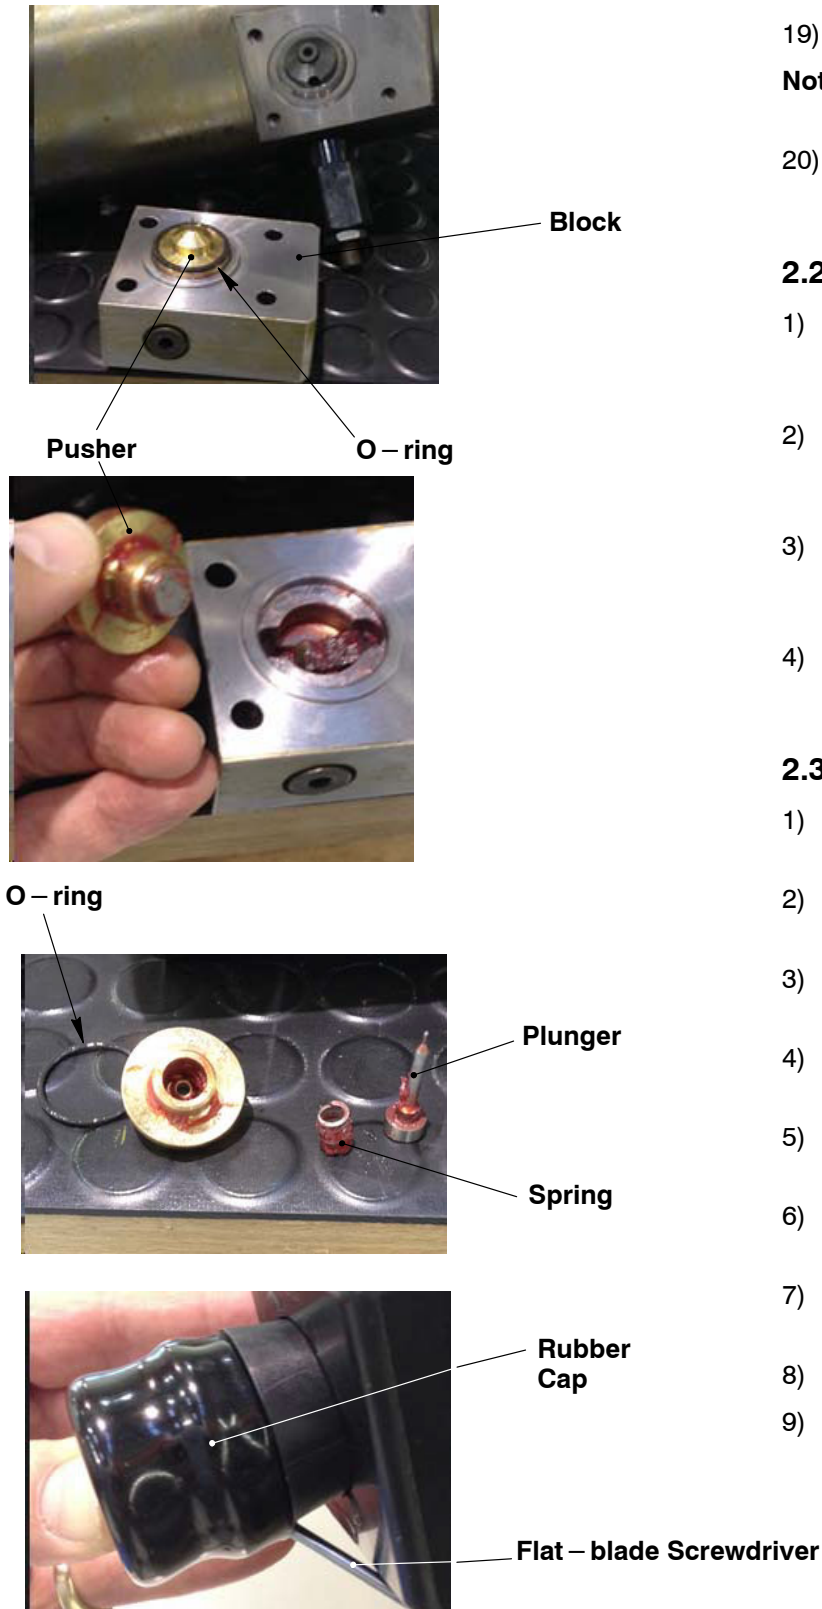

Fig. 3
19) Carefully remove the pusher (Fig. 3).
Note: During step 9), hold in the pusher with your hand to help you attach the rubber cap (Fig. 3).